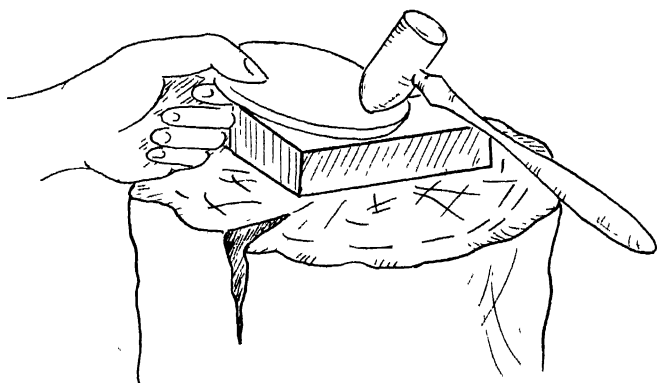

Fig. 6—Doming
*Doming:* Place the disc of copper flat on the doming block over the depression and extending a trifle over the edge of the depression. Aim for the centre of the depression with the round face of the doming mallet and give one firm blow with the mallet, driving the copper partly into the depression. (Fig. 6.) Rotate the disc  $\frac{1}{2}$ " or so and strike again. Repeat this operation, rotating the disc slightly between each blow of the mallet. When this operation has been completed all the way around, you should have a shallow tray with a slightly wrinkled edge. Move the disc or tray further over the depression and go around again inside the first row of mallet marks. Move the disc further in each time around until you end up with one blow in the centre. After this first doming, a 6" disc should be changed into a shallow dish about  $5\frac{1}{2}$ " to  $5\frac{3}{4}$ " in diameter and  $\frac{3}{4}$ " to 1" deep. A word of caution regarding wrinkles around the edge—never let them get so high that they fold over, because if they do, they will split the metal into radial cracks that get worse as you go along. If this should happen, trim the bowl down to a smaller size, cutting the cracks off entirely.